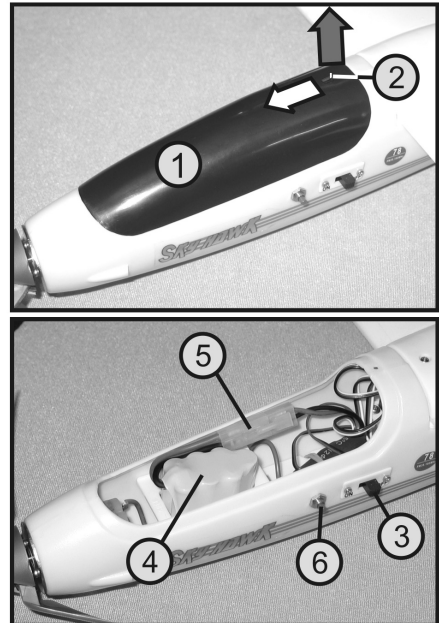

Figure 10
Then put the transmitter into operation and then switch on the receiver installation (see figure 10, pos. 3) with the function switch.
→ Once you turn on the receiver installation, the drive engine is not yet ready for operation. You can first start the engine when the safety button is pushed while the receiver installation is on (see figure 10, pos.6).
Before pushing the safety button at the model (see figure 10, pos. 6), ensure that the control lever for the motor function is in the bottom position "Motor off".